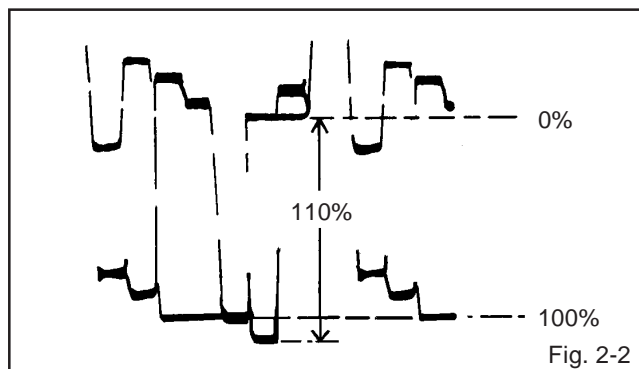

Fig. 2-2
7. Press the VOL. UP/DOWN button on the remote control until the red color level is adjusted to $110 \pm 10\%$ of the white level. (Refer to Fig. 2-2)